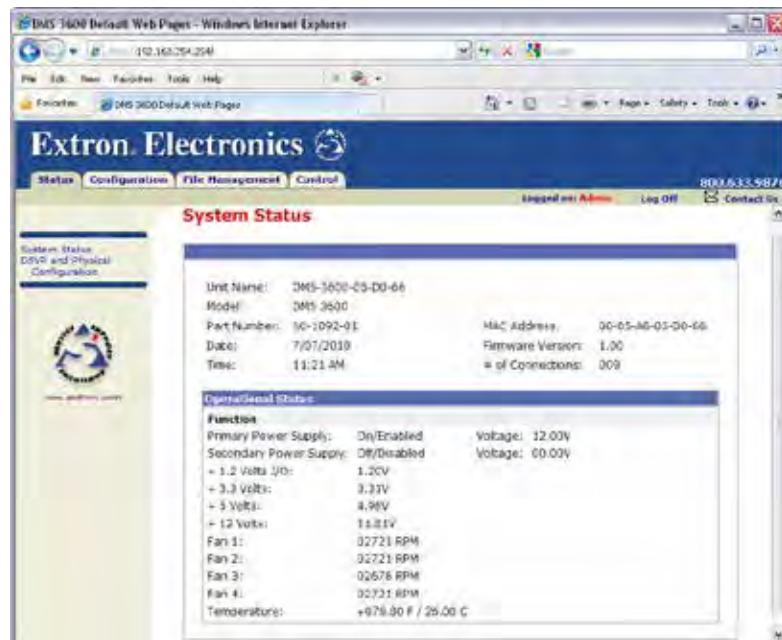

Figure 56. System Status Page
- If neither of the above conditions is true, the switcher downloads the factory-installed default startup page, “**nortxe_index.html**”, also known as the System Status page (see **figure 56**, on the next page).
The System Status page (see figure 56) provides an overall view of the status of the matrix switcher, including individual voltages and the serial port status (if applicable). The System Status page is the default page that the switcher downloads when you connect to the switcher. Access the System Status page from other pages by clicking the **Status** tab.